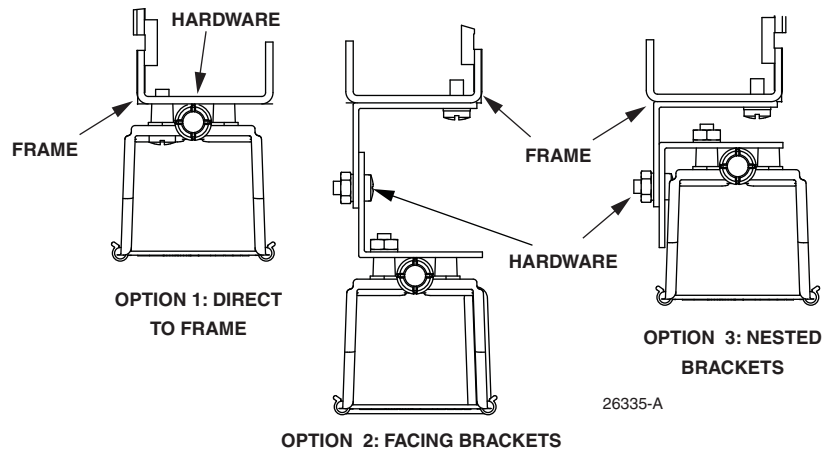

Figure 8. Mounting Options for Rack Mount Extension
1. If needed, install the mounting brackets on the frame, selecting from the mounting options shown in Figure 8.